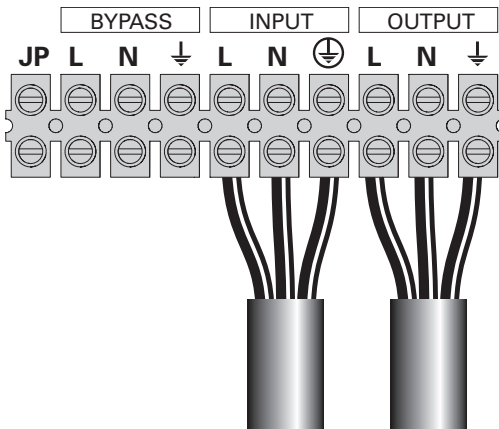

Figure 19.
- 1 - Remove the metal jumper (*see figure 19*).